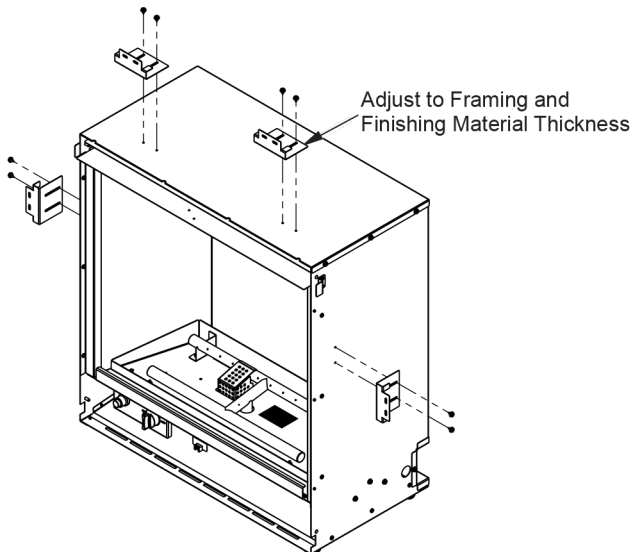

**Figure 6 - Rough Opening for Corner Installation**
1. Frame in the rough opening. Use dimensions shown in Figure 4 for the rough opening. If installing in a corner, use dimensions shown in Figure 6, for the rough opening. The height is 23 1/4", which is the same as the wall opening.